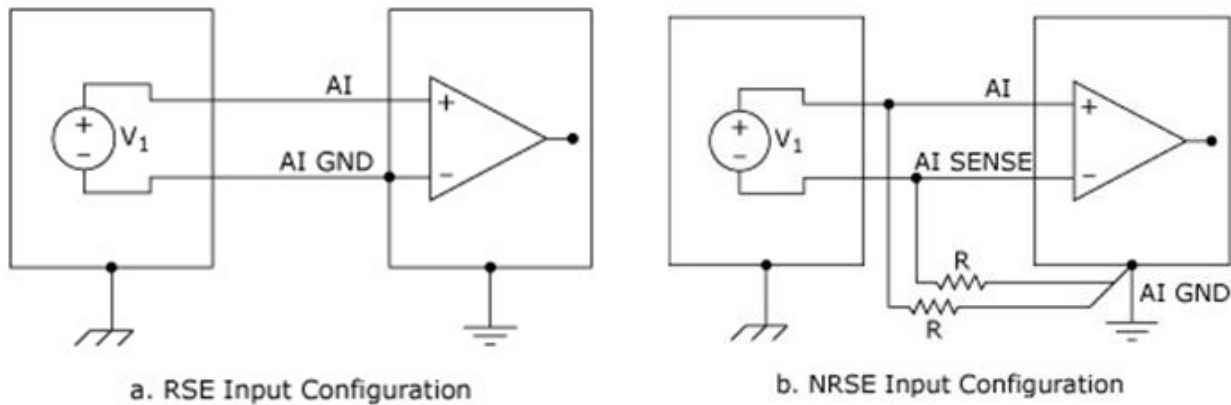

Figure 10: Floating Signal Source Interface with Single-Ended Configurations
2. **Floating signal sources** can be measured with both differential and single-ended measurement systems as presented in Figure 10.a and Figure 10.b , respectively.